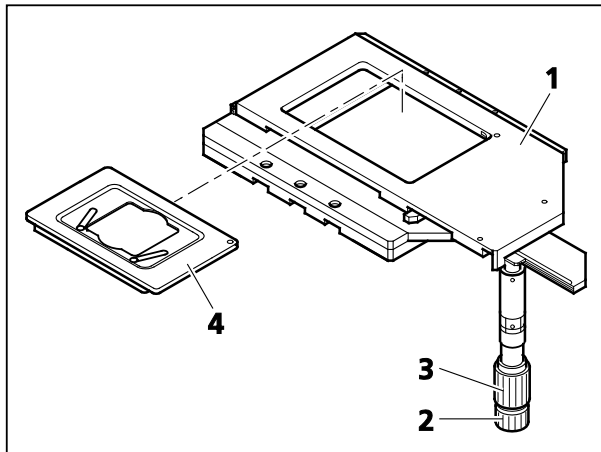

Fig. 2-14 Mechanical Stage 130x85 R with Mounting Frame
- Mechanical stage (Fig. 2-14/1) designed to hold and position specimens in mounting frame K (Fig. 2-14/4)
- Drive knobs for X (Fig. 2-14/2) and Y adjustment (Fig. 2-14/3)